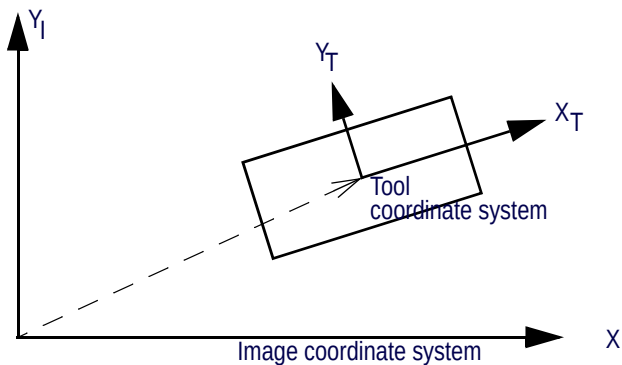

Figure 234 Image-Based Uncalibrated Mode: Relationship between Tool and Image Coordinate Systems
- **Positioning coordinate system:** In the Image-based Uncalibrated mode, the tool is positioned with respect to the Image coordinate system as shown in Figure 234.